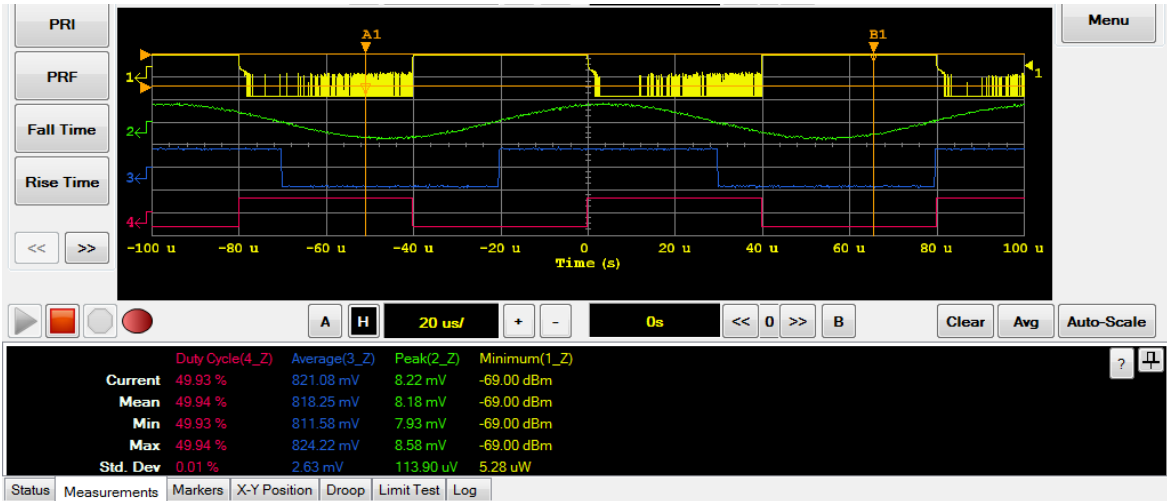

Figure 2-81 Measurement view in zoom display layout
- 2 A rectangle frame is displayed at the main graph window to indicate the area that is magnified as shown in Figure 2-81. The magnified section of the waveform is displayed below the main graph.
- 4 The Measurement view on the multi-purpose pane will display the measurement results of the magnified section of the waveform as shown in Figure 2-81.